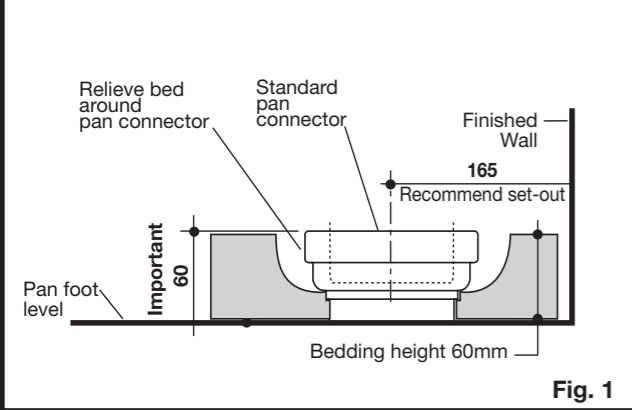
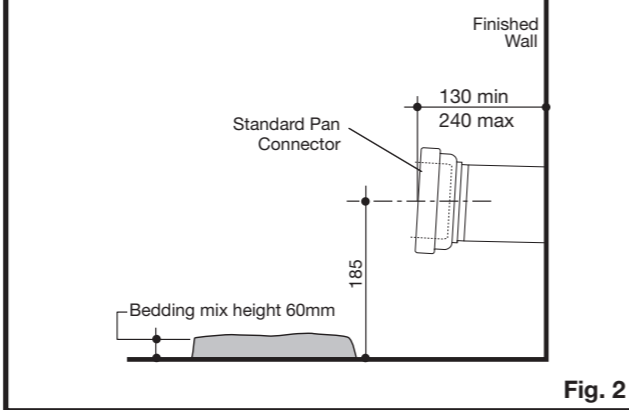

Fig. 1
Fig. 2
It is essential for installation of the Allegro Linked Toilet Suite that the soil pipe and pan collar for 'S' and 'P' trap installation is accurately fixed into position as detailed in Fig. 1 or Fig. 2.
- 3- Prepare bedding sand cement mixture 3:1 to depth of 60mm as detailed in Fig 1. Note: Do not fill the foot of the pan with bedding mix or include lime or fast drying cement in the mix, these may cause cracking in the foot of the pan.